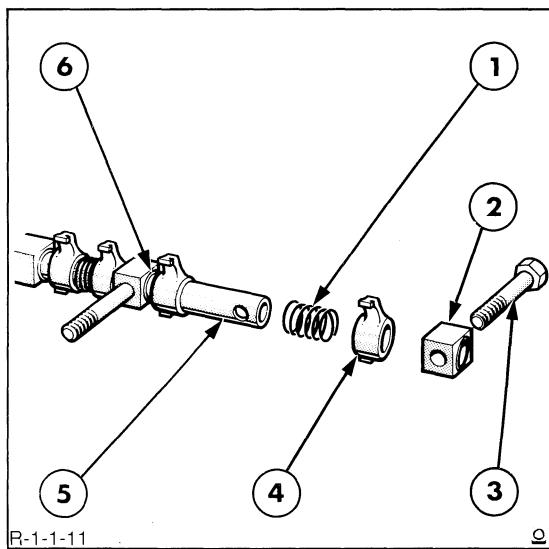

Figure 11
1. Remove the cylinder head bolts which pass through the rocker shaft supports and slide the rocker shaft components from the shaft, Figure 11.
3. Use a straight edge and feeler gauges to check the flatness of the cylinder head in all directions, Figure 11. For flatness requirement see "Specifications" – Chapter 3.